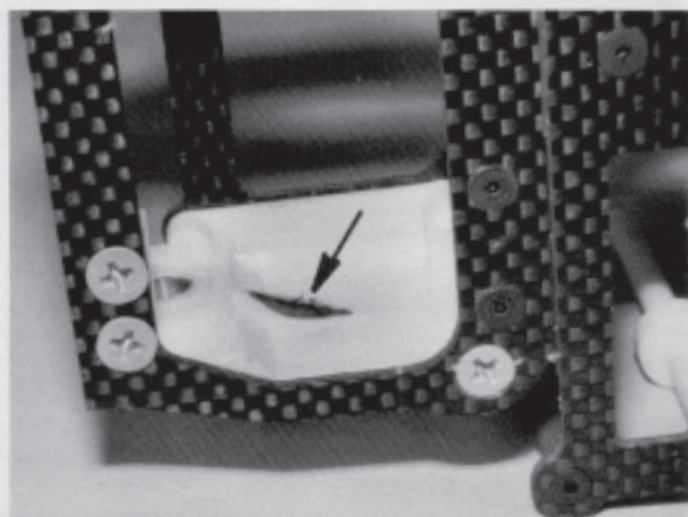
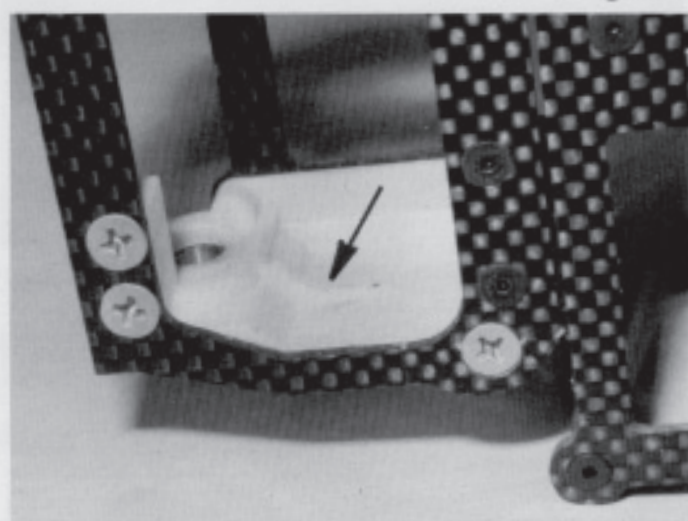

Fig. 50
Fig. 51
□ Figs. 50 & 51 We will need to trim or grind away some of the plastic from the left hand bulkhead where shown in Fig. 50. Use an X-acto® knife or Dremel® tool and trim off approximately 1/8" of material, as shown. When finished your left hand bulkhead should look like Fig. 51. This will allow us to install and remove the motor with less problems.